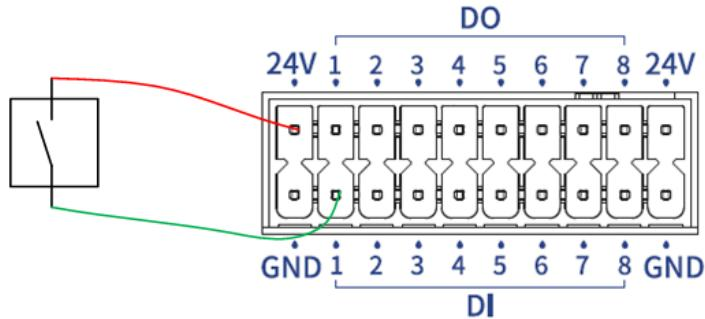

Figure 6.10 DI wiring (simple switch)
- When you use an external simple circuit as the DI input, the wiring is shown in Figure 6.10.